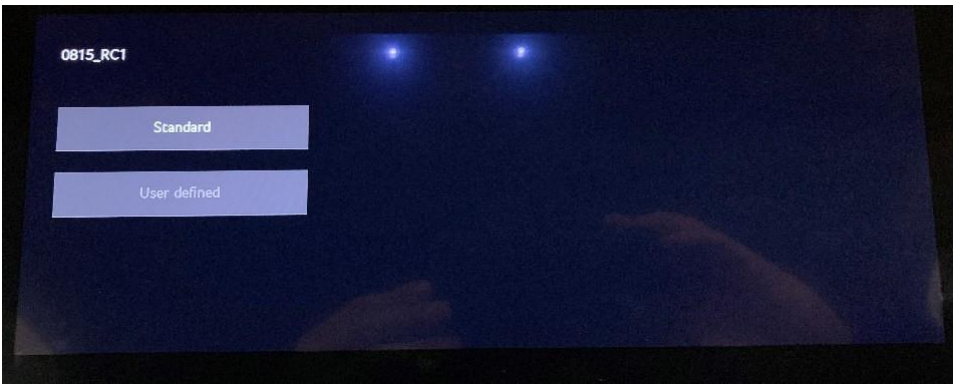

Figure 6
5. Select Standard (Figure 6).